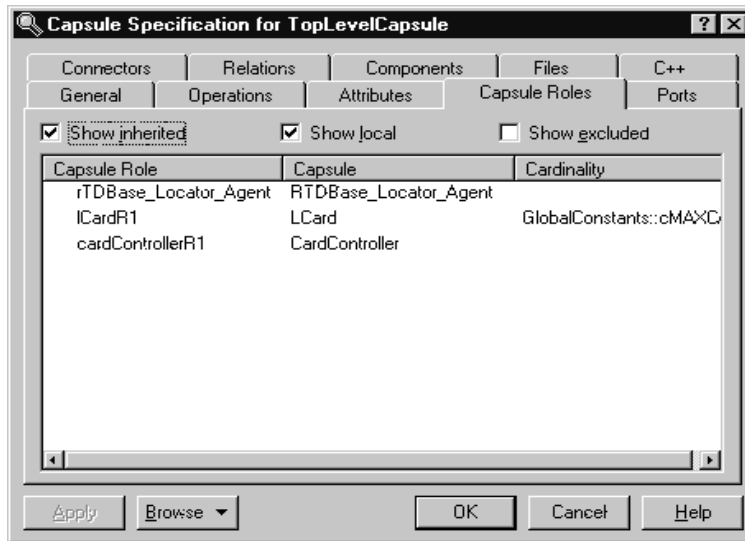

Figure 48 Capsule Role tab of top-level capsule
4. Move the Connexis component's capsule role so that it is in the list before any capsule roles that register with Connexis. You can do this by dragging and dropping the appropriate capsule role to the top of the list of capsule roles. The resulting dialog is shown in Figure 48.